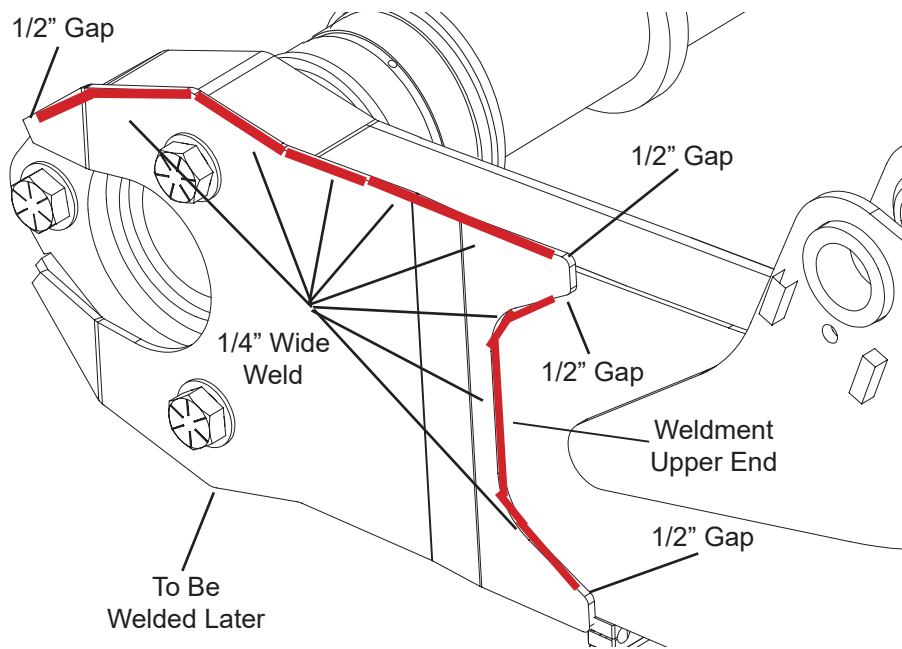

Figure 6
12. Remove the clamps and use a 1/4" wide weld to weld the weldment to the arm along the up facing edge and weldment upper end. Stop the welds approximately 1/2" from the weldment upper end and the weldment bolt end (Figure 6). The down facing edge will be welded later.